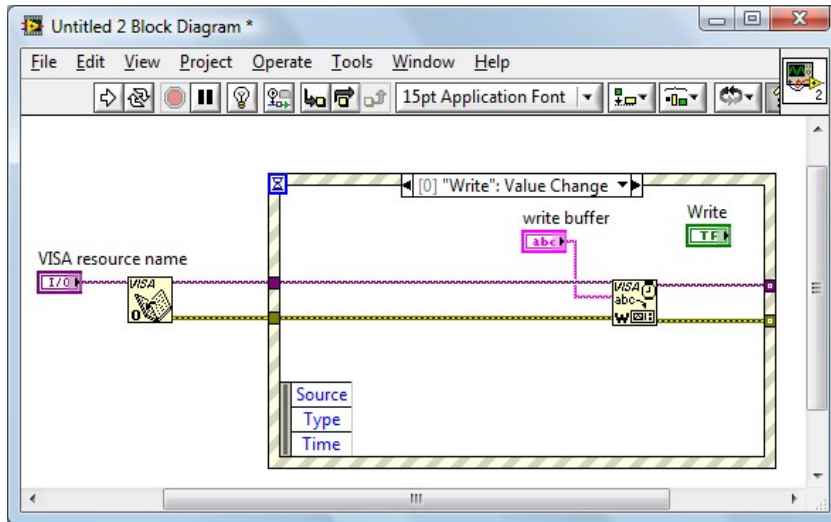

Figure 4-3-3
9. Right-click the write buffer terminal of the VISA Writer function; click the shortcut menu and choose Create>>Control to create a write buffer as shown in figure 4-3-3.